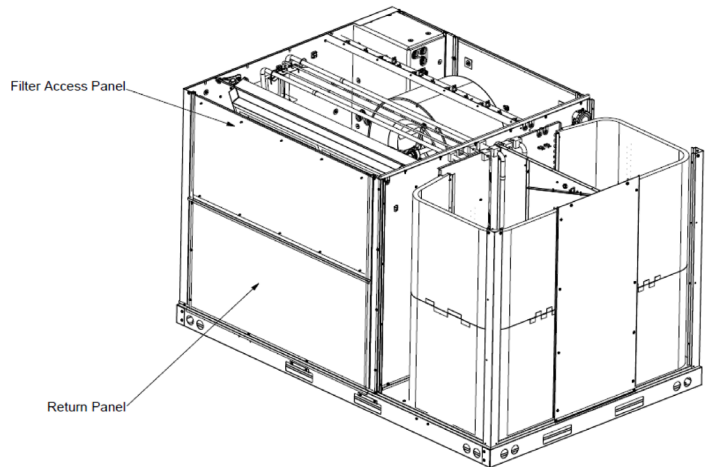

FIGURE 6 - REMOVE PANELS
- Take filter access panel off of unit. Keep for installation back on to unit when economizer installation is complete (see Figure 6).
- Remove return panel from return air section of unit (see Figure 6). This panel can be discarded. Keep removed screws for use in later step.